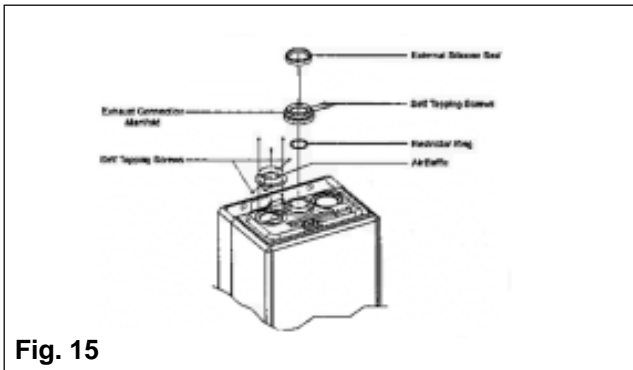

Fig. 15
5.5.3.1 Installation of twin adaptor kit (fig. 15)